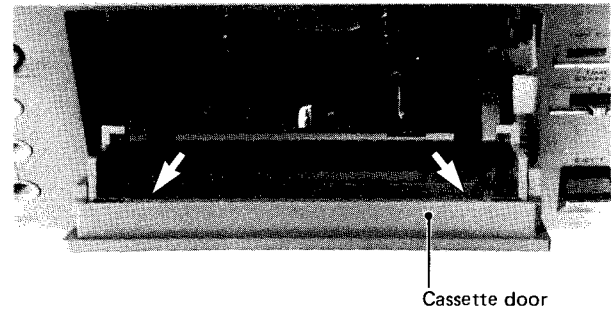

Fig. 38
2. Unlock 2 pawles (arrow marks in Fig. 38) by your fingers.